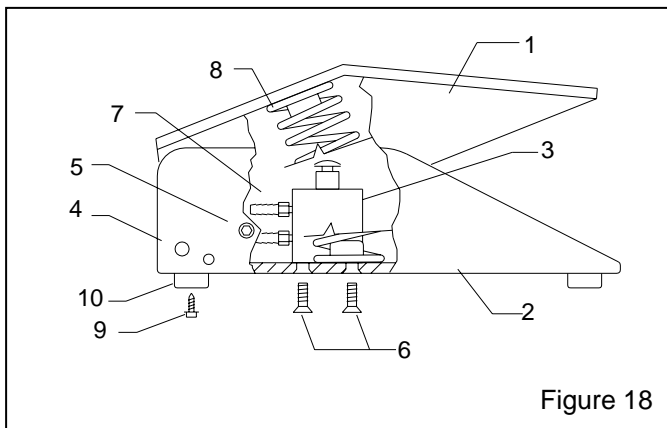

Figure 18
8.4 Foot Pedal Assembly, Figure 18